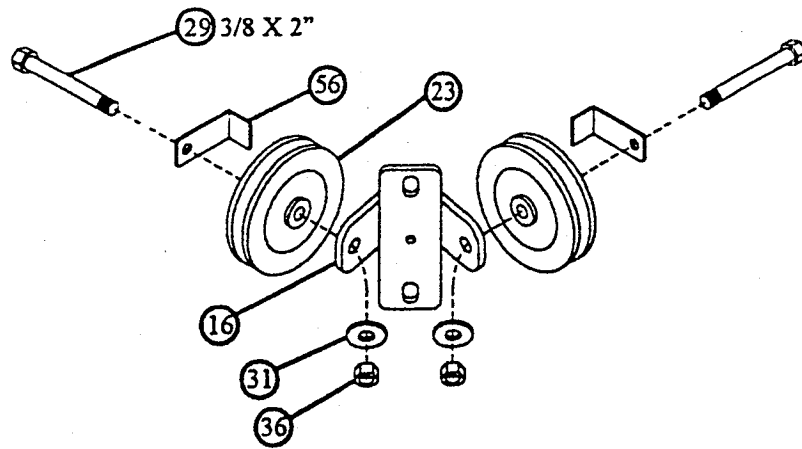

FIGURE 12
- LOOSELY assemble two 3-1/2" PULLEYS (23) and two CABLE RETAINING CLIPS (56) to the CENTER PULLEY BRACKET (16) using two 3/8 X 2" BOLTS (29), two 3/8" WASHERS (31), and two 3/8" LOCKNUTS (36). See FIGURE 12.